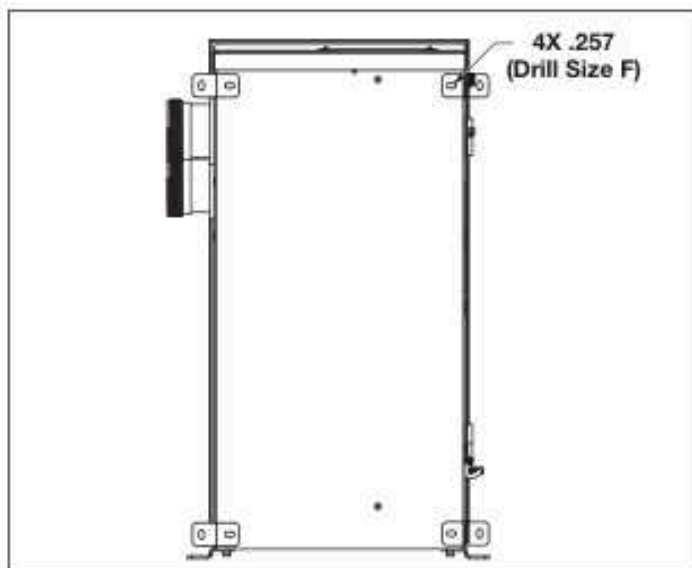

Figure 2. Wall Mounting Hole Pattern
1. Drill 4 holes, (.257 in, drill size F), in the back of the enclosure approximately as shown in Figure 2.